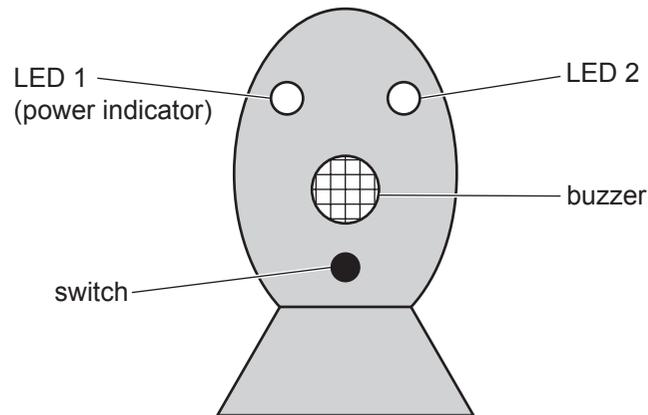

Fig. 6
- 9 Fig. 6 shows a sketch of an egg timer which is programmed to operate in a specific sequence.